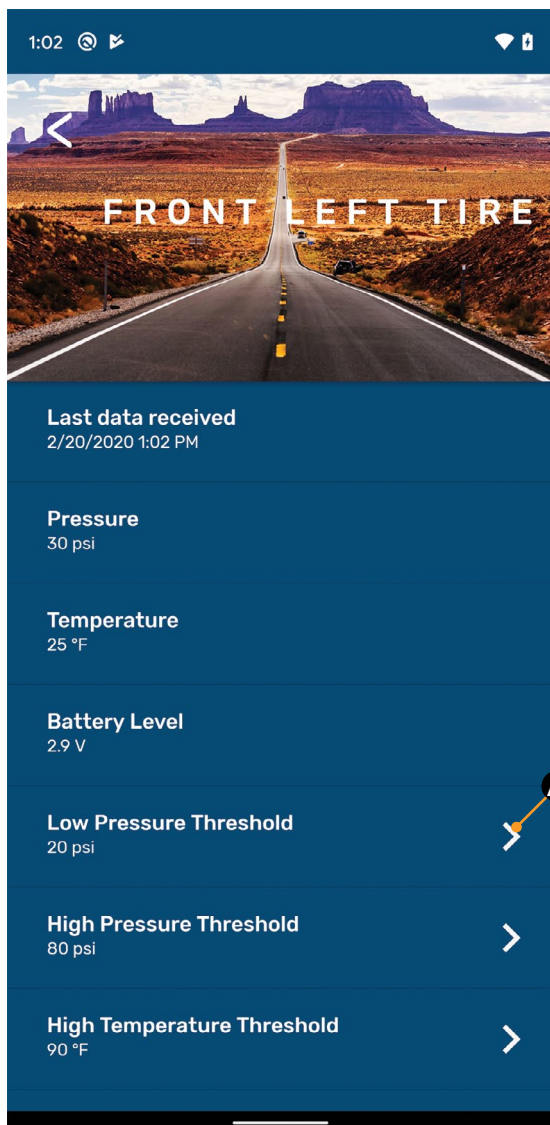

Fig.18
5. Tap the readout button (Fig.16A) of a tire to launch its properties window (Fig.18). Within the selected tire's properties window, various tire and sensor specifications can be observed and altered.
Programmable tire limits have a “next” arrow (>) (Fig.16A) that, when tapped, opens that feature’s scrollable window of available settings. Scroll through the limits window to find the desired setting, select it, then tap the “back” arrow (<) (Fig.18) located above the tire’s name at the top of the window’s heading.
A. In this example, the reported current tire **Pressure** is listed as “30 psi” (Fig.18).